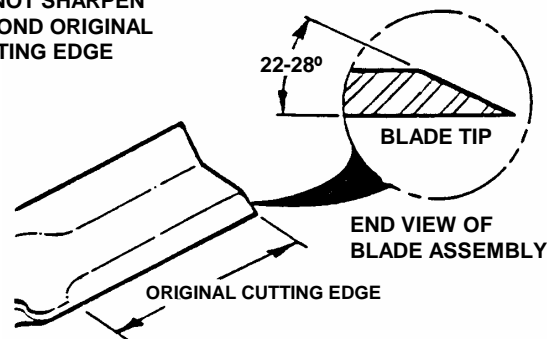

FIGURE 4.3
4. Sharpen blade on a grinding wheel at an angle of 22 to 28 degrees. DO NOT sharpen blade beyond original cutting edge. See Figure 4.3.